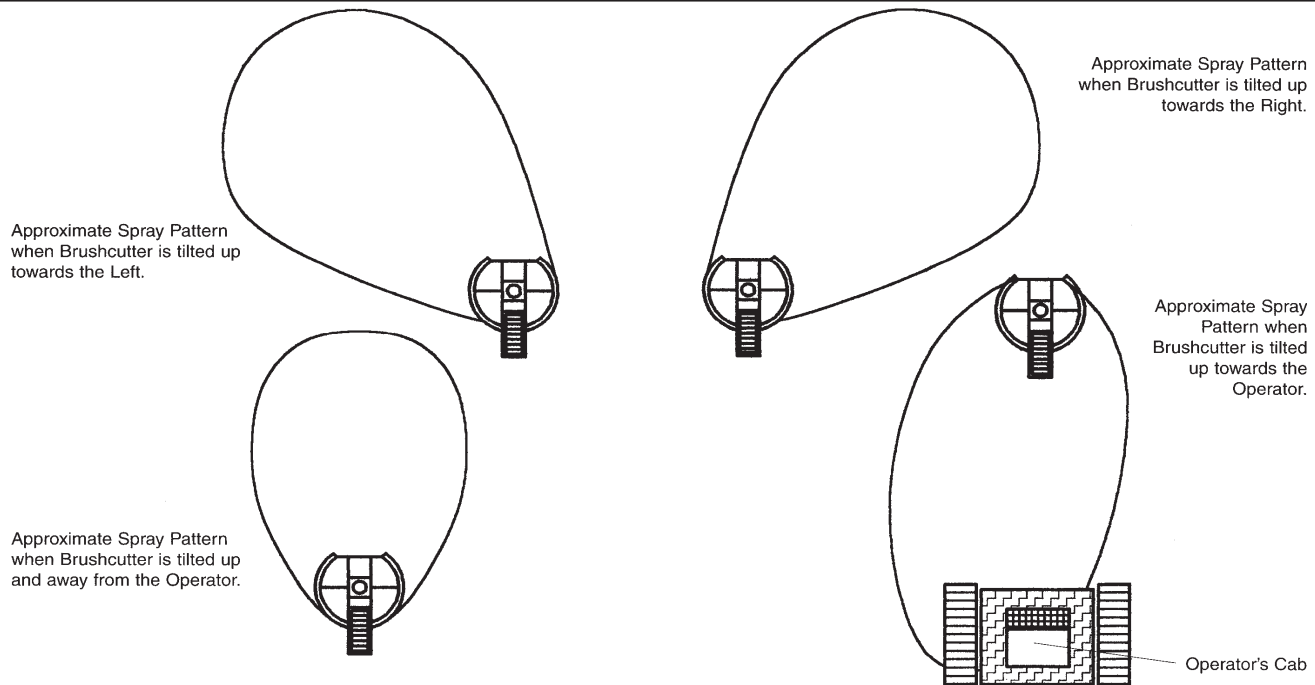

FIGURE 1.5 TILTING THE CUTTER HEAD
7. Objects tend to be thrown out from under the shroud in the direction of rotation and towards the raised edge of the shroud. Avoid cutting with the head tilted at such an angle that objects would be thrown towards the operator's cab. See figure 1.5 Tilting The Cutter Head.